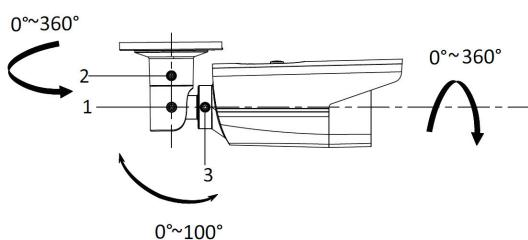

Figure 3: Camera adjustment in 3 axes; 1,2,3 – locking screws
The camera is designed to be used in an indoor and also an outdoor environment (IP 67 rating) where it can be installed on the wall. It is possible to easily set up camera's installation position owing to a joint holder which can be adjusted in all three axes (see the figure 3).
8. Perform camera registration (see the chapter: Registration to a server) to obtain access to preview and align the camera in the required direction, allowed in three axes, see figure 3.